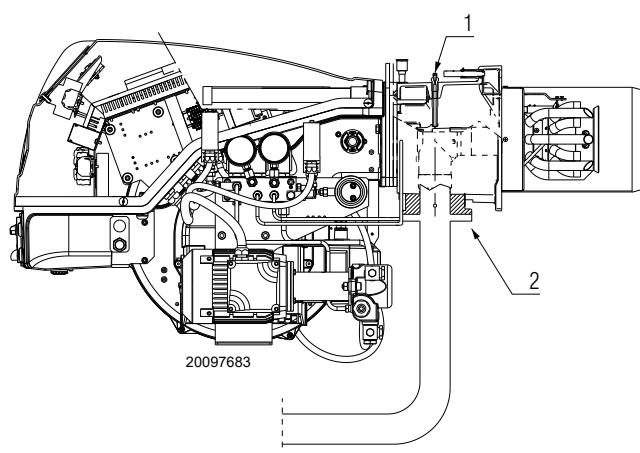

Fig. 34
Gas manifold pressure measured at test point 1)(Fig. 34), with:
- subtract the combustion chamber pressure from the gas pressure measured at test point 1)(Fig. 34).
- Gas pressure at test point 1)(Fig. 34) = 5.6" WC